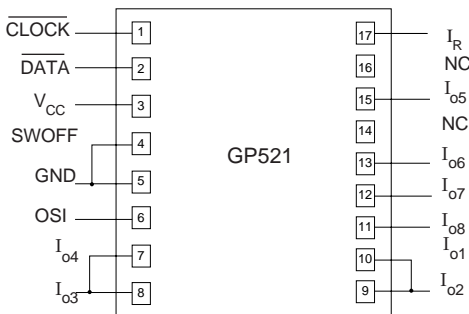

Fig. 11 SIX OUTPUT CONFIGURATION
When SWOFF is low, four PCS ( $I_{O5}$  to  $I_{O8}$ ) are available; availability of other two PCS is dependent on the voltage on pin OS1. For this configuration (6 PCS configuration) the necessary hardware connections are presented in Figure 11.
**OS1** - The voltage level on this pin determines the selection of four PCS ( $I_{O1}$  to  $I_{O4}$ ) for 6 PCS configuration. As indicated on Figure 11, pin  $I_{O1}$ ,  $I_{O2}$  and  $I_{O3}$ ,  $I_{O4}$  are connected together. If OS1 is low,  $I_{O1}$  and  $I_{O3}$  are set to high impedance. Therefore the PCS,  $I_{O2}$  and  $I_{O4}$  are permitted to sink current.